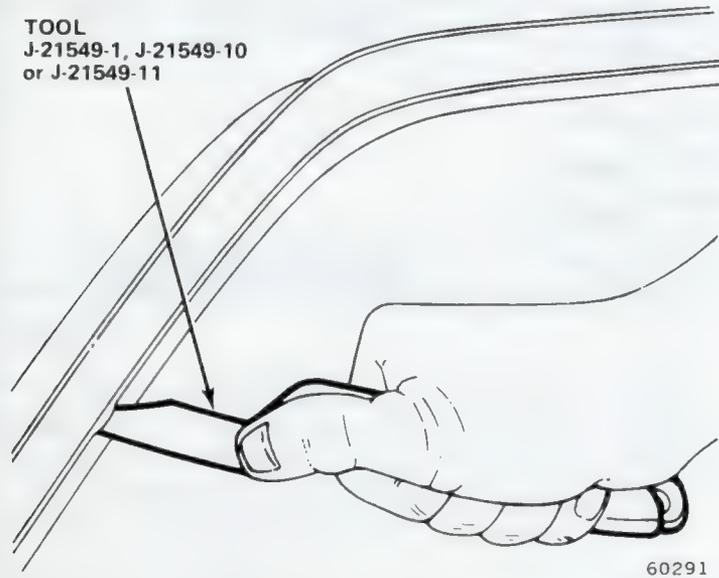

Fig. 3K-17 Reveal Moulding Removal—Typical
- (1) Remove side reveal mouldings (before upper and lower mouldings) using Reveal Moulding Remover Tool J-21549-1, J-21549-10, or J-21549-11 as shown in figure 3K-17.